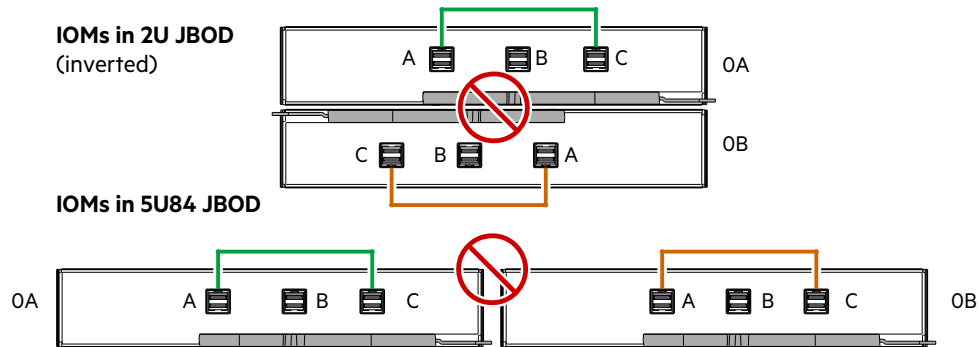

Figure 114 SAJ cabling: invalid configuration—IOM looped to self
- Figure 114 \(page 144\) shows an IOM incorrectly looped to itself